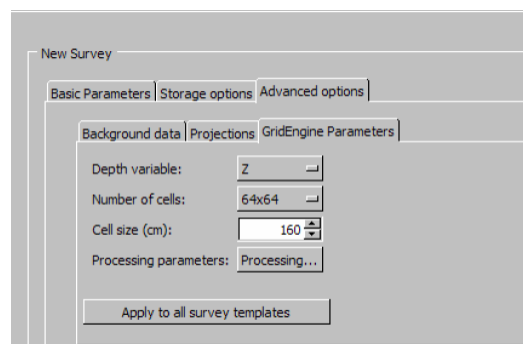

Figure 9: GridEngine Parameters display
- **Cell size:** Select **Advanced options/GridEngine parameters**. Select what depth to display and resolution of the grid, i.e. number of cells and cell size, suitable for the depth and expected coverage (Figure 9). The grid cell size is determined by the average swath width.